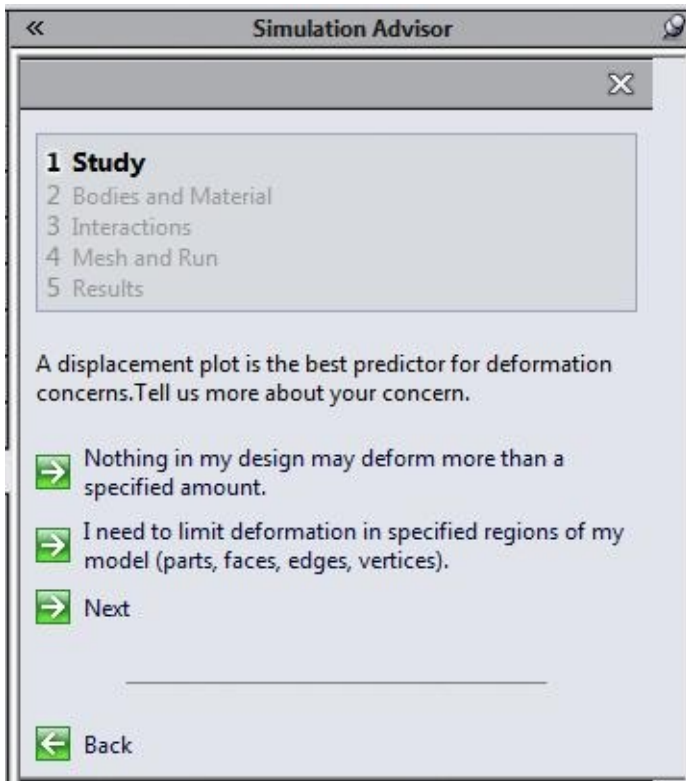

Figure-32. Second page Study
- Currently, we are planning to perform the stress analysis. For that, click on the **I am concerned about excessive deformation or stresses link** button. The **second page of Study** will be displayed in the **Simulation Advisor**; refer to Figure-32.